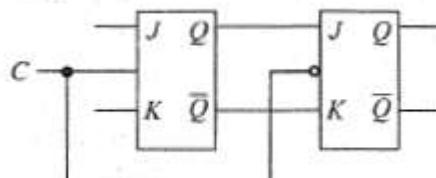

Figure 8.28: Master-slave flip-flop
- 1) The master is set according to J and K while the clock is high (Fig 8.28).